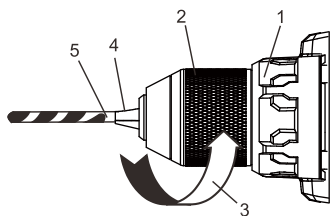

Fig. 10
1. To open the keyless drill chuck, grasp and hold the chuck collar (1) with one hand (Fig. 10). Rotate the chuck body (2) with the other hand in a counterclockwise direction (3) until the chuck jaws (4) open wide enough to accept the bit (5).